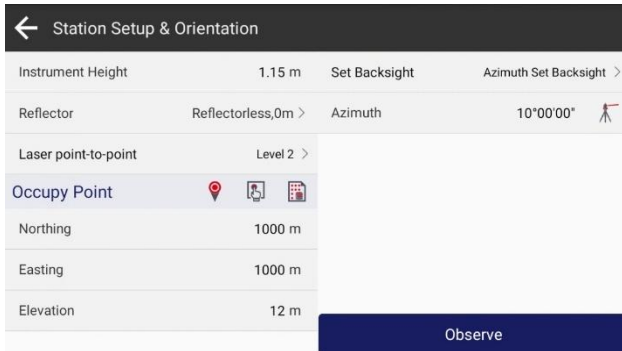

Figure 3.2-5
3. Azimuth Set Backsight, as shown in Figure 3.2-5,6,7. Set a known angle of the backsight point, observe the backsight point, obtain the current device's angle to the backsight point, Surpro 6.0 will calculate the difference between the known angle and the device's angle itself, and then set the known angle to the device when [Apply] is clicked.